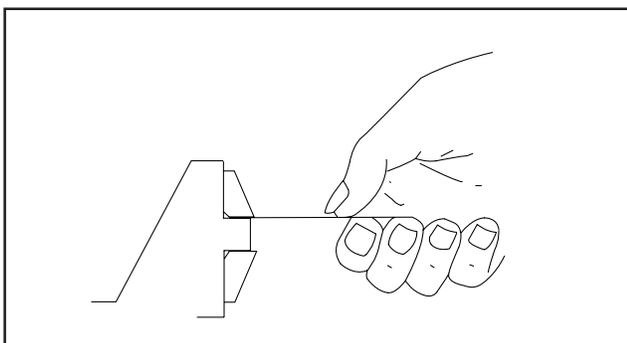

Figure 8
5. Use a feeler gauge or shim stock to ensure bearing cups are completely seated in bearing bores (.0015" approx.). This is necessary for proper pinion position. See Figure 8.